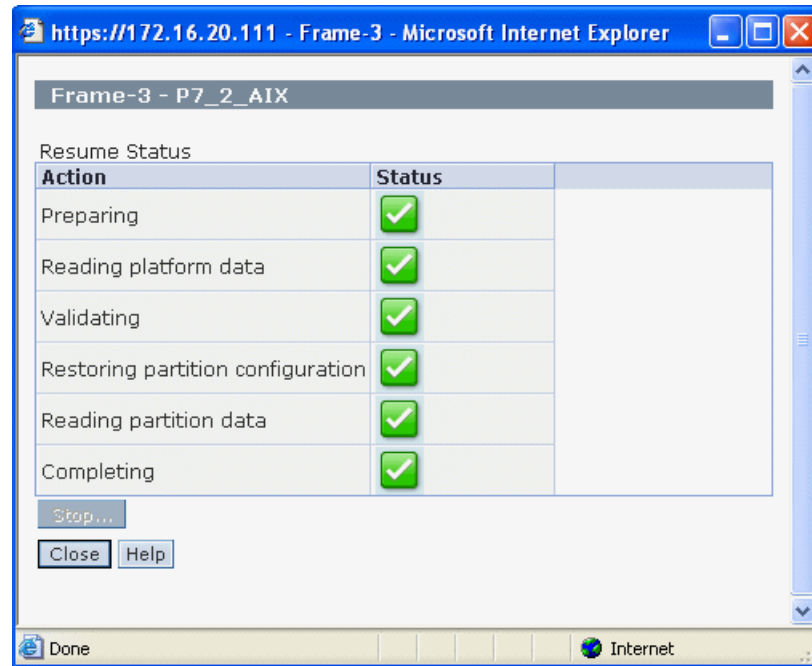

Figure 17-40 Finished partition resume operation
3. After completion, the **Resume status** windows provide information regarding the status of the operation, as shown in Figure 17-40. You can now select **Close**.